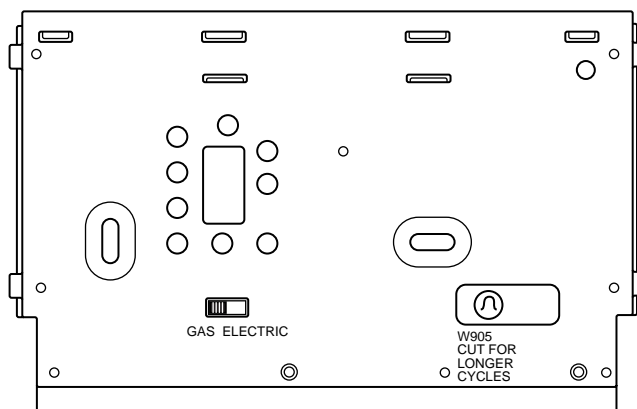

Figure 1. Back of thermostat base
If your system is an electric heat or heat-pump system that **REQUIRES** the thermostat to turn on the fan on a call for heat, locate the **GAS/ELECTRIC switch** on the back of the thermostat (see fig. 1) and switch it to the **ELECTRIC** position. This will allow the thermostat to energize the fan immediately on a call for heat. If you are unsure if the heating/cooling system requires the thermostat to control the fan, contact a qualified heating and air conditioning service person.
3. One jumper is located on the back of the thermostat, so that you may customize the thermostat to meet your individual preference (see fig. 1). In most applications, the factory jumper settings provide the most comfortable and convenient thermostat operation.